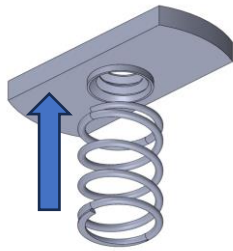

Figure 8: Combining the Spring with the Track Nut
- Install spring onto track nut and insert into one of the crossbars as shown in Figure 8 & Figure 9.